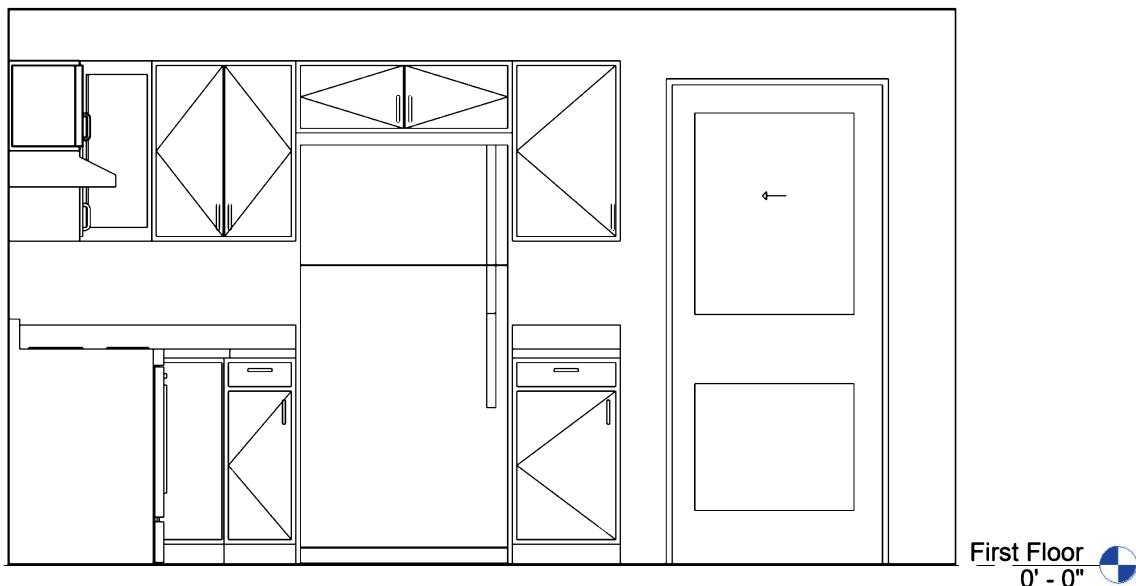

FIGURE 12-2.16 Kitchen (south); modified view
42. Click the ***crop region*** and drag the right side of the ***crop region*** rectangle towards the left so only the portion of elevation shown in Figure 12-2.16 is visible.
Your ***Kitchen (south)*** view should now look like Figure 12-2.16.